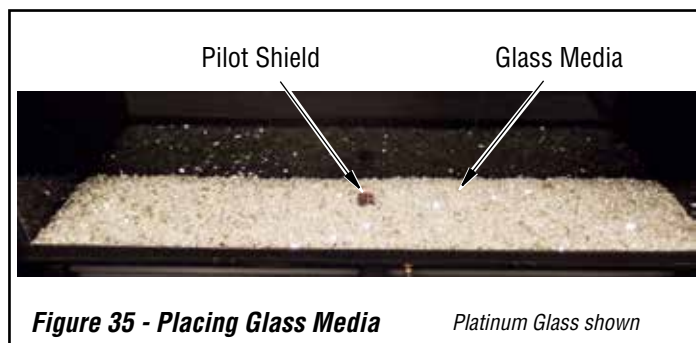

Figure 35 - Placing Glass Media
1. Place glass media in a layer evenly make sure only one layer of media on top of the burner and remaining media could be spread evenly across the remaining pan media. Ensure not to place media on top of the pilot shield, it is okay to place media around the shield (see **Figure 35, Page 32**).